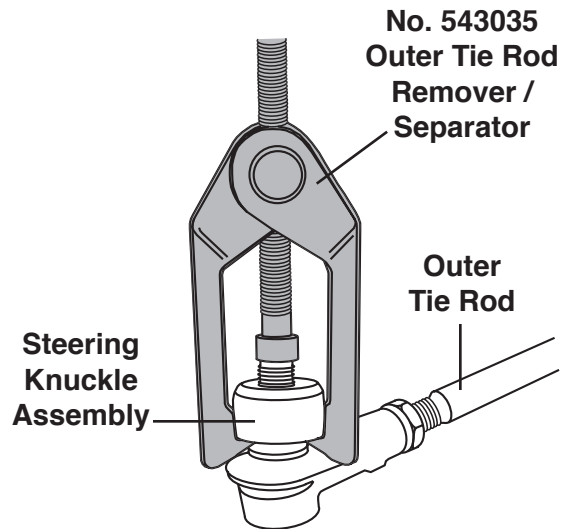

Figure 4
2. Position No. 543035 Outer Tie Rod Remover on the outer tie rod assembly as shown in Figure 4.